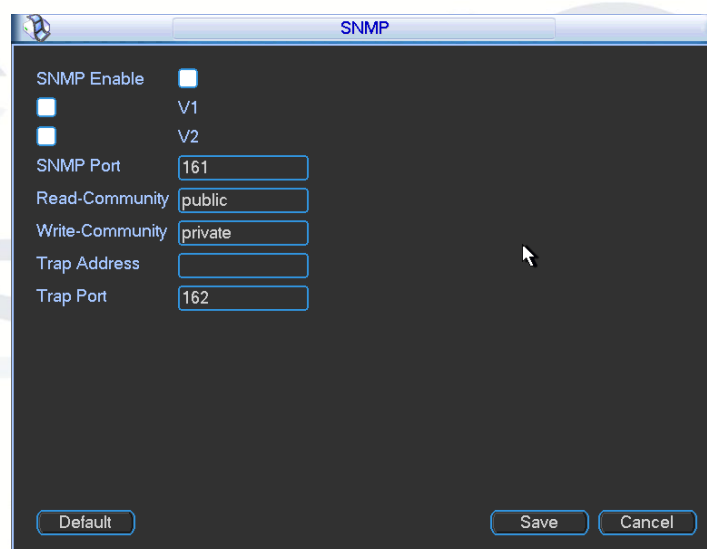

Figure 5-51
SNMP is an abbreviation of **Simple Network Management Protocol**. It provides the basic network management frame for the network management system. The SNMP is widely used in many environments. It is used in many network devices, software and systems. You can setup the following interface. See Figure 5-51.
1. In Figure 5-51, check the box to enable the SNMP function. Input the IP address of the PC that is running the software in the Trap address. You can select the default setup for the rest items that need to be filled in.